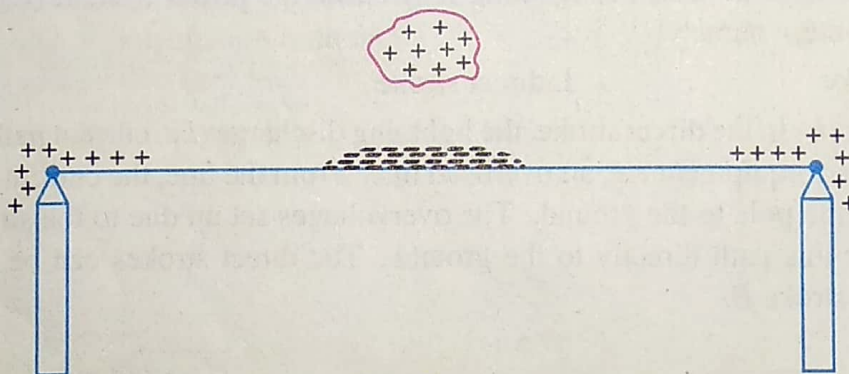

Fig. 24.6
2. Indirect stroke. Indirect strokes result from the electrostatically induced charges on the conductors due to the presence of charged clouds. This is illustrated in Fig. 24.6. A positively charged cloud is above the line and induces a negative charge on the line by electrostatic induction. This negative charge, however, will be only on that portion of the line right under the cloud and the portions of the line away from it will be positively charged as shown in Fig. 24.6. The induced positive charge leaks slowly to earth *via* the insulators. When the cloud discharges to earth or to another cloud, the negative charge on the wire is isolated as it cannot flow quickly to earth over the insulators. The result is that negative charge rushes along the line in both directions in the form of travelling waves. It may be worthwhile to mention here that majority of the surges in a transmission line are caused by indirect lightning strokes.